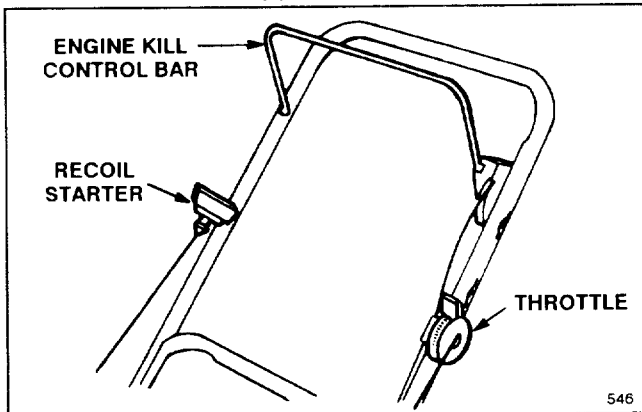

Figure 8
1. CONTROLS—Throttle, engine kill control bar and recoil starter are on upper handle (Fig. 8).
6. STOPPING (Fig. 8)—Release control bar and stay behind handle until engine and blade stop. Pull